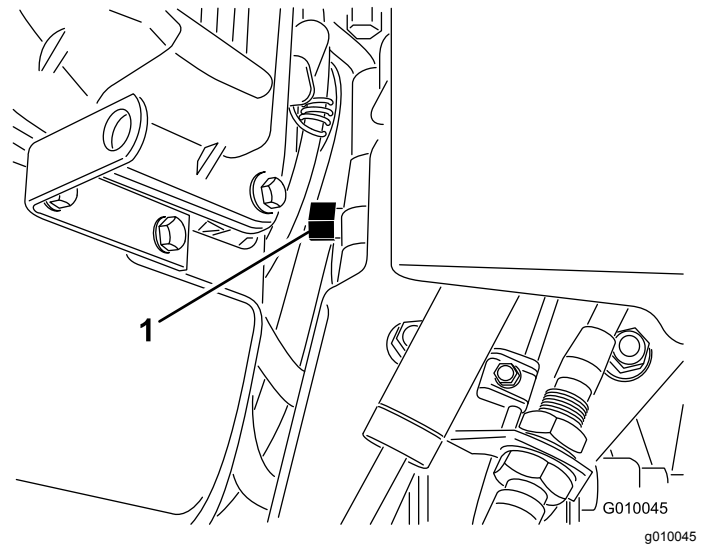

Figure 31
2. Locate the bypass valve between the engine and hydrostatic pump (Figure 31).
3. Using a 5/8 inch wrench, rotate the bypass valve counterclockwise 1 turn. This allows the hydraulic fluid to bypass the pump enabling the wheels to turn (Figure 31).
5. To operate the aerator again, rotate the bypass valve clockwise 1 turn (Figure 31).